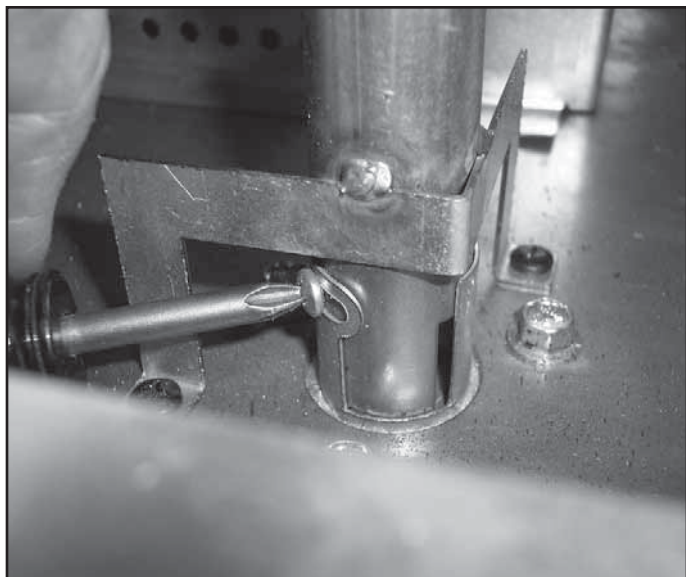

Figure 15.7 Adjust Center Burner Tube Air Shutter
- Center burner tube air shutter is now accessible with short phillips screw driver (see Figure 15.7).